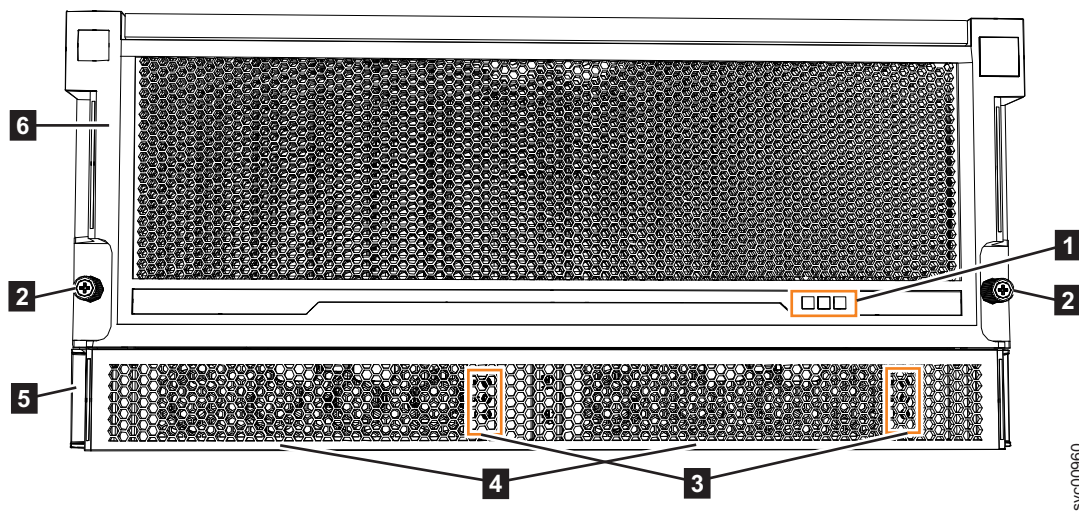

Figure 115. Features on the front of the 2077-92F expansion enclosure
- Before you connect the power cables to the rear of the enclosure, always check that the expansion enclosure is secured in the rack. If needed, tighten the thumbscrews on the front of the enclosure (**2** in Figure 115) to ensure that the enclosure drawer does not roll open.
The 2077-92F expansion enclosure has two power supply units (PSUs) that are accessible from the front of the enclosure (**4** in Figure 115). As the figure also shows, the PSUs are covered by the 1U fascia (**5**).
On the front of the enclosure, the indicators on the front display panel and each PSU (**1** and **3** in Figure 115 on page 133) are also lit when the power is connected. See “Storwize V5000 Gen2 2077-92F expansion enclosure LEDs and indicators” on page 136 for information about the status that is provided by the indicators.